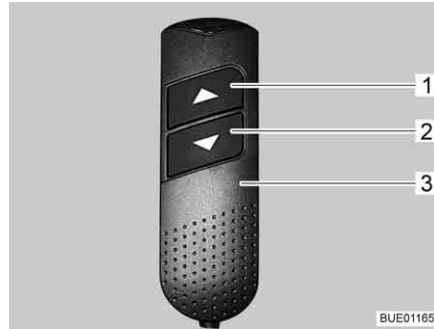

Fig. 113 Manual control unit
- On the manual control unit (Fig. 113,3) push the "▼" button (Fig. 113,2) and keep it pressed. The foot section is retracted. The head sections are raised.
- On the manual control unit (Fig. 113,3) push the "▲" button (Fig. 113,1) and keep it pressed. The foot section is extended. The head sections are lowered.
- On the manual control unit (Fig. 113,3), press the "▼" button (Fig. 113,2) or "▲" button (Fig. 113,1) until the desired position is reached.